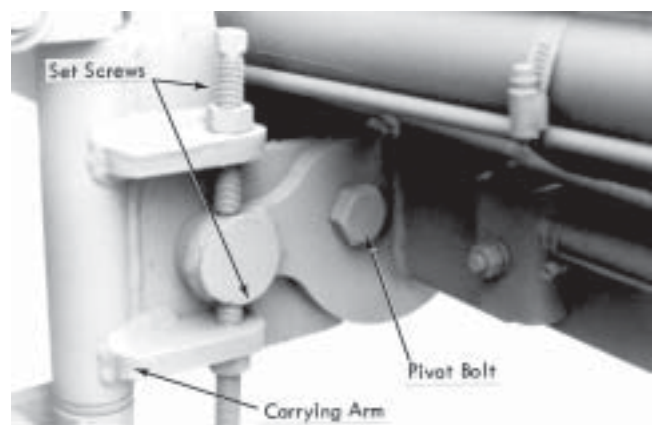

Figure 5. Spray Bar Carrier Bolts.
- The two 3/4 inch bolts that carry the spray bar (Fig. 5).